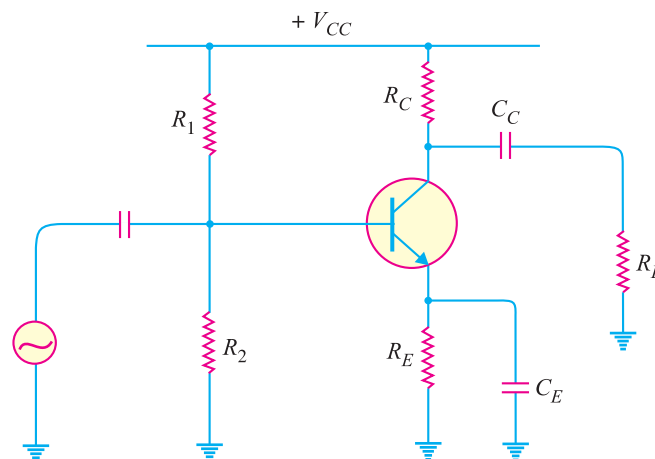

Fig. 10.46
3. Fig. 10.46 shows the transistor amplifier. If $R_C = 4\ \text{k}\Omega$, $R_E = 5\ \text{k}\Omega$ and $V_{CC} = 30\ \text{V}$, draw the d.c. load line.
4. Find the operating point for Fig. 10.46, $V_{CC} = 30\ \text{V}$, $R_1 = 20\ \text{k}\Omega$, $R_2 = 20\ \text{k}\Omega$, $R_C = 4\ \text{k}\Omega$, $R_E = 5\ \text{k}\Omega$. [13.2V, 1.85mA]
5. For the circuit shown in Fig. 10.46, find the voltage gain if $\beta = 100$, $R_C = 3\ \text{k}\Omega$, $R_L = 6\ \text{k}\Omega$ and $R_{in} = 2\ \text{k}\Omega$. [100]
6. In the circuit shown in Fig. 10.46, $V_{CC} = 30\ \text{V}$, $R_1 = 2\ \text{k}\Omega$, $R_2 = 1\ \text{k}\Omega$, $R_C = 2\ \text{k}\Omega$, $R_L = 2\ \text{k}\Omega$, $R_E = 1\ \text{k}\Omega$. Draw the d.c. and a.c. load lines.